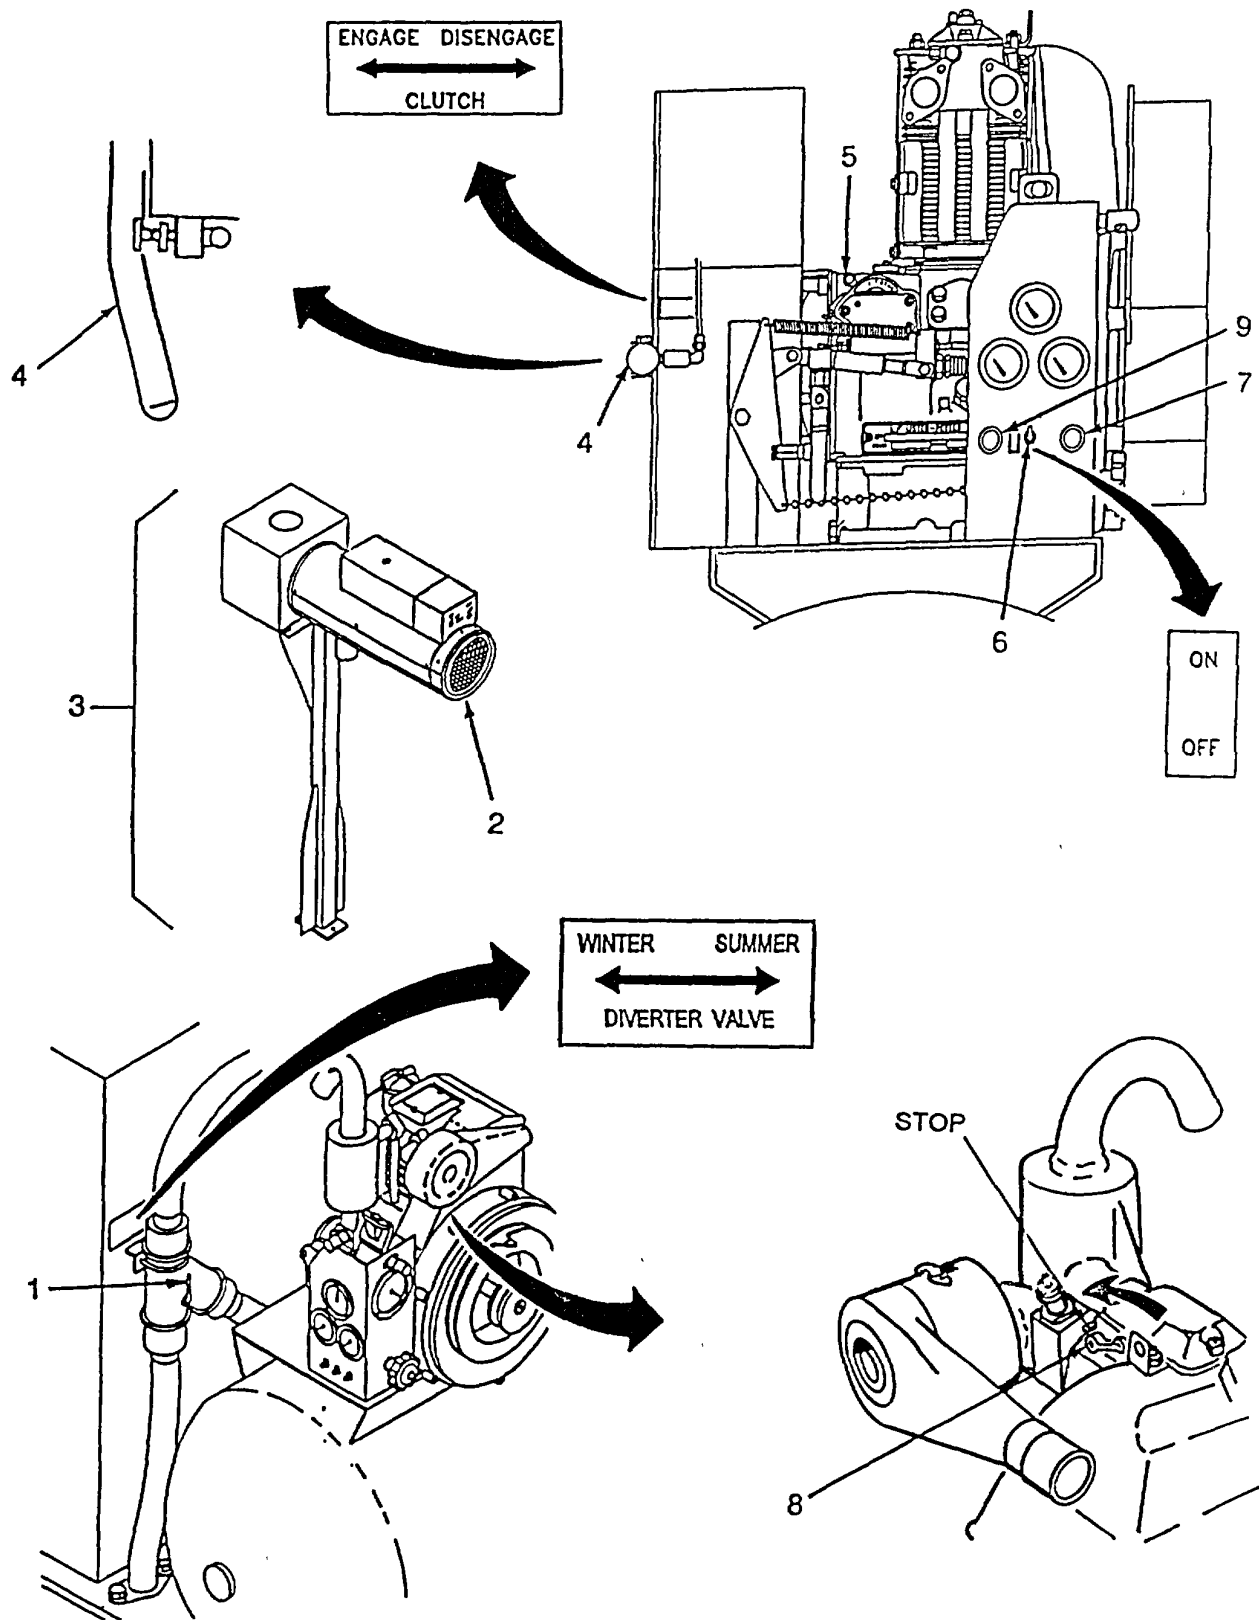

Figure 2-34. Unusual Environment/Weather
2-12. OPERATION IN UNUSUAL ENVIRONMENT/WEATHER. (See Figure 2-34.)
- (11) Make sure that the batteries are in new or almost new condition. It would even be a good idea to take two spare batteries along on the mission as well as a battery charger.
e. STARTING THE ENGINE (Refer to Figure 2-34.)
- (1) Switch exhaust diverter valve (1) to the left "winter" position.
- (2) Start heater (2) on winterization assembly (3). (See para. 2-12.1.f. Winterization assembly and heater). Allow unit to warm to at least 200F.
- (3) To decrease starting load, start engine with clutch (4) disengaged.
- (4) Move the engine run/stop lever (5) on engine to "run".
- (5) Move the on/off toggle switch (6) on control panel to "on".
- (6) Depress glow plug button (7) on control panel for one minute - It warms the engine chamber air for easier combustion of diesel fuel.
- (7) While continuing to hold glow plug button (7) move decompressor lever (8) on top of engine towards its stop and hold.